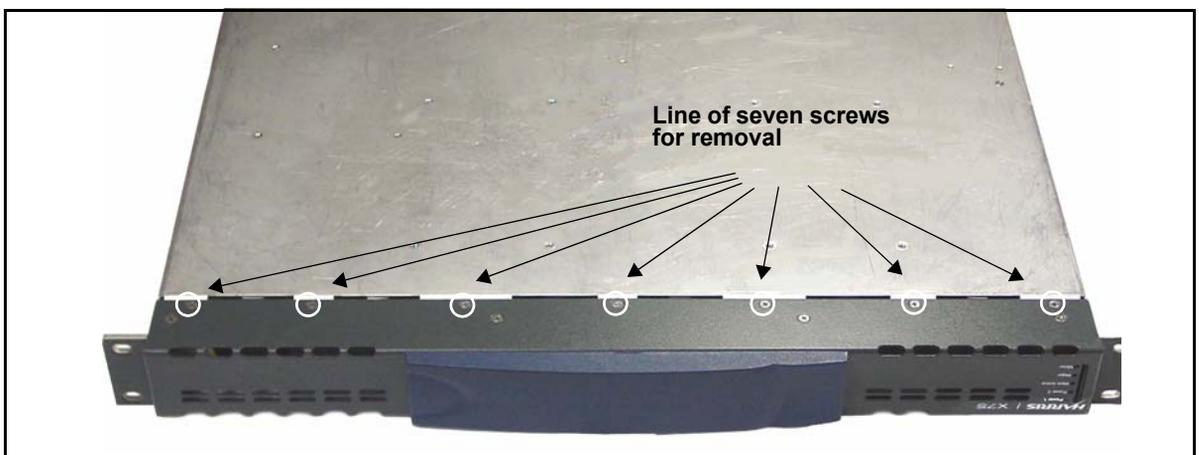

Figure C-3. Removing the Bottom Front Panel Screws
4. Remove the seven screws along the bottom of the blank front panel that hold the panel to the frame (do *not* remove the line of four screws that secure the fan module). See Figure C-3 below.